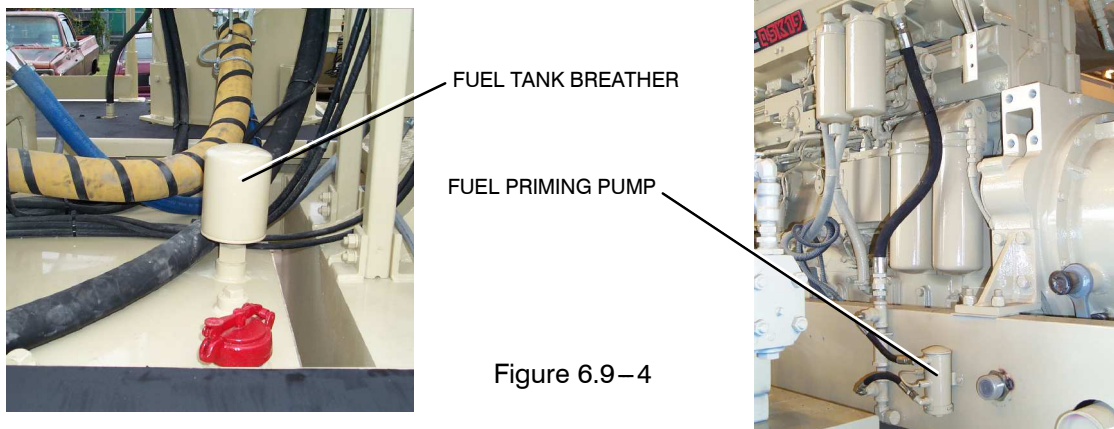

Figure 6.9-4
1. Thoroughly clean the area around the fuel tank breather (see Figure 6.9-4).
1. Thoroughly clean the area around the fuel priming pump (See Figure 6.9-4).